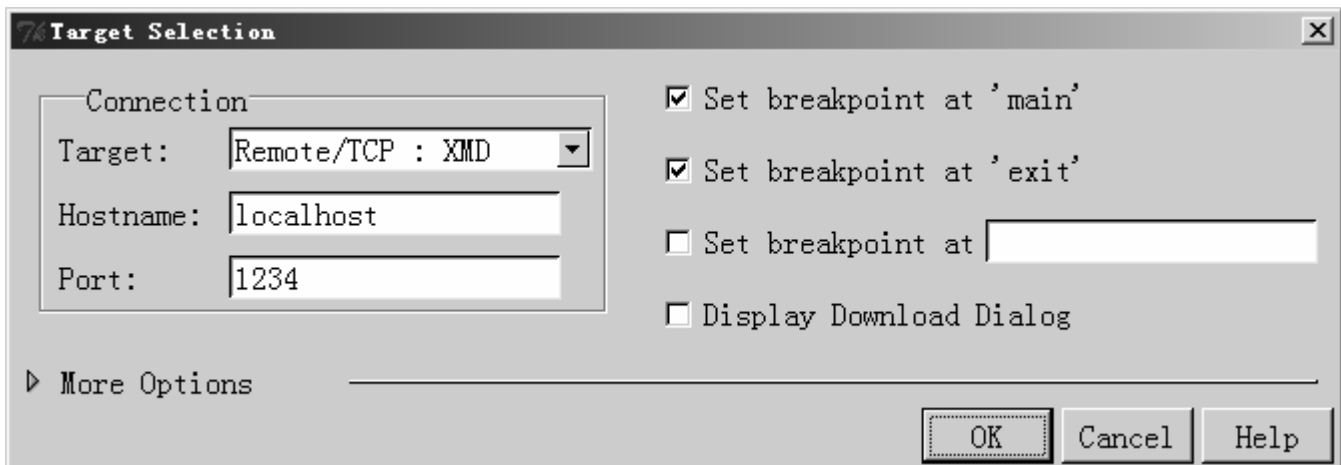

Figure 34: GDB Target Selection
- In GDB, select **File** → **Target Settings** to display the Target Selection dialog box as shown in Figure 34